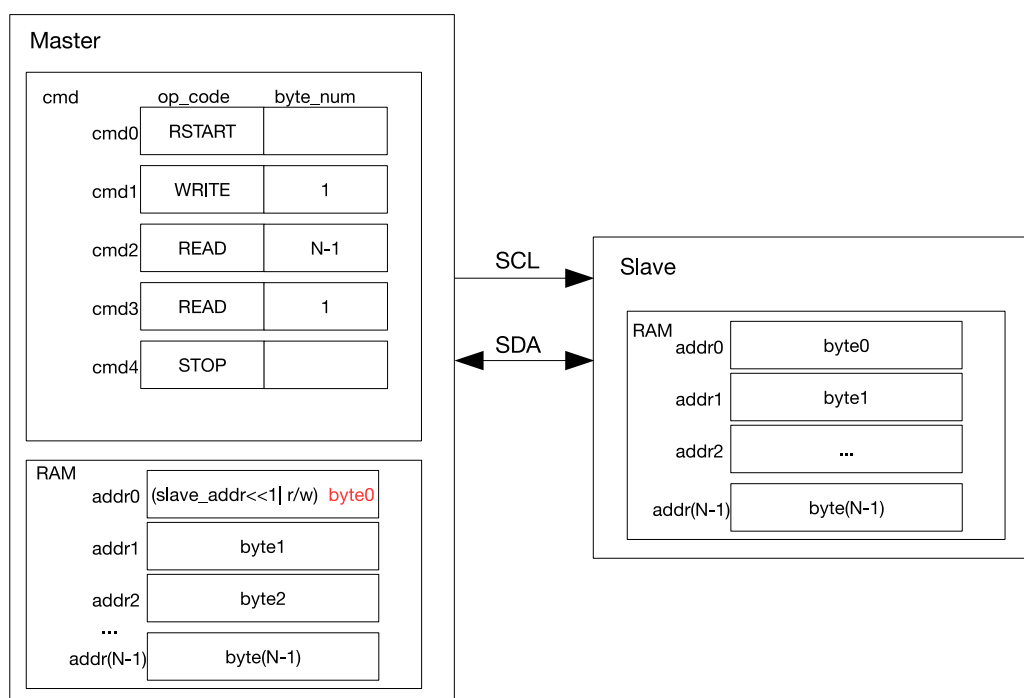

Figure 21.5-5. I2Cmaster Reading I2Cslave with a 7-bit Address
Figure 21.5-5 shows how I2Cmaster reads N bytes of data from an I2C slave's registers or RAM using 7-bit addressing. cmd1 is a WRITE command, and when this command is executed, I2Cmaster sends I2Cslave address. The byte sent comprises a 7-bit I2Cslave address and a  $R/\overline{W}$  bit. When the  $R/\overline{W}$  bit is 1, it indicates a READ operation. If the address of an I2C slave matches the sent address, this matching slave starts sending
As illustrated in Figure 21.5-5, I2Cmaster executes two READ commands: it generates ACKs for (N-1) bytes of data in cmd2, and a NACK for the last byte of data in cmd3. This configuration may be changed as required. I2Cmaster writes received data into the controller RAM from addr0, whose original content (a I2Cslave address and a  $R/\overline{W}$  bit) is overwritten by byte0 marked red in Figure 21.5-5.
1. The procedures for Segment0 is similar to Figure 21.5-5, except that the last command is an END.